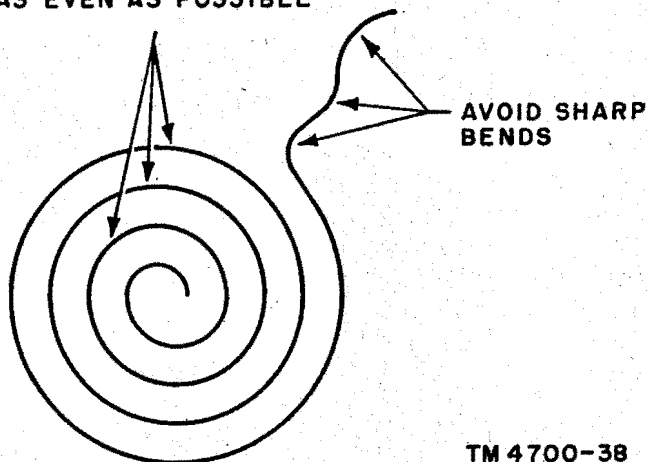

Figure 40. Correct method of shaping hairsprings.
- (3) *Straightening or bending hairspring.* When a new hairspring must be straightened or bent, make the radius of the bends as large as possible (fig. 40). Incorrect bending and shaping of the hairspring cause uneven convolutions which will make contact when the spring is under strain. After adjusting a hairspring, run the pointer upscale and note whether there is any contact between convolutions of the springs. When making this test, be